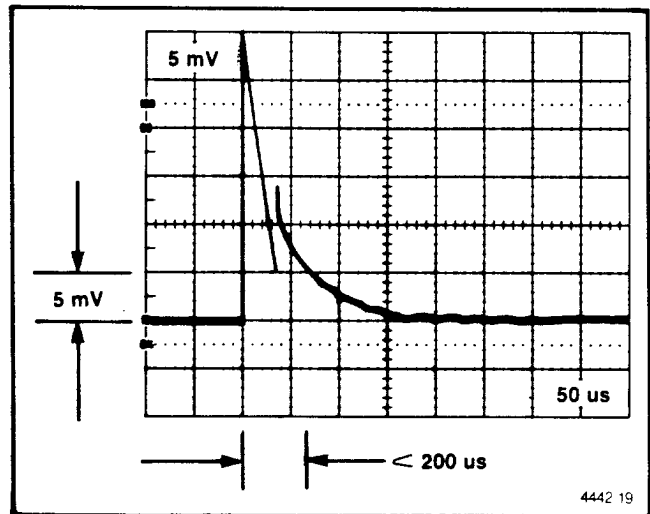

Fig. 5-3B. Load transient recovery waveform (decreasing load).
k. Adjust the 7B53A Delay Time Multiplier to position the waveform positive going (load turn off) transition with the sharp edge located on the second graticule division (see Fig. 5-3B).